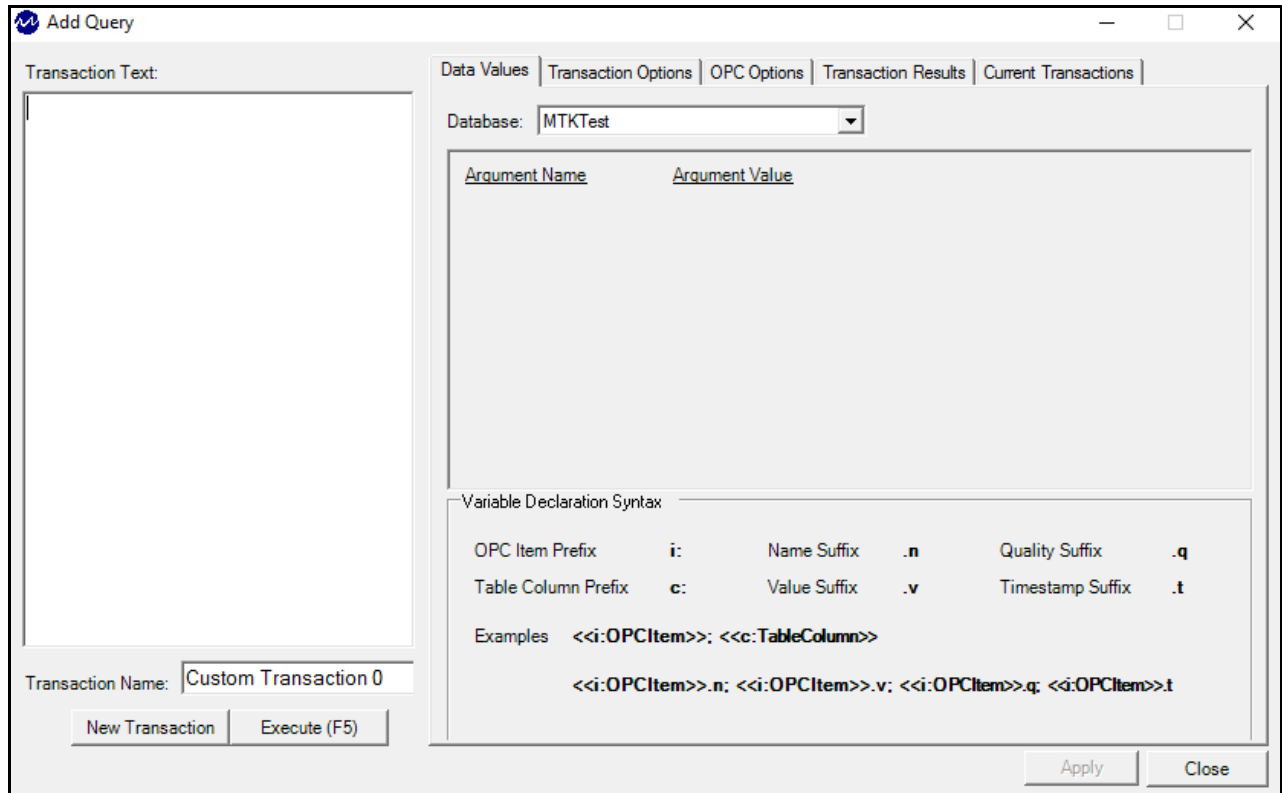

Figure 26 - Add Query Window - Data Values Tab
3. Click the Custom Write (SQL) button, or select the Custom Write option from the Database menu to launch the custom write editor. The Add Query window (also referred to as the custom write editor) appears (Figure 26).
The **Data Values** tab is displayed in Figure 26.